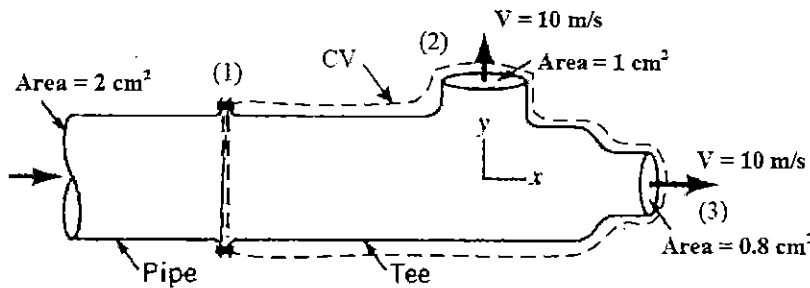

Fig. 1
1. Water flows as two free jets from the tee attached to the pipe as shown in Fig. 1 with the control volume (CV). As indicated, the uniform flow exit speeds at sections (2) and (3) are 10 m/s, where the area of sections (1), (2) and (3) are 2 cm^2 , 1 cm^2 , and 0.8 cm^2 , respectively. If viscous effects and gravity are negligible, please answer the following questions.
- (b) What is the flow speed at the section (1) using the conservation of mass? (5%)
- (c) What is the pressure at the section (1) using the Bernoulli's equation for flow between sections (1) and (2)? (5%)